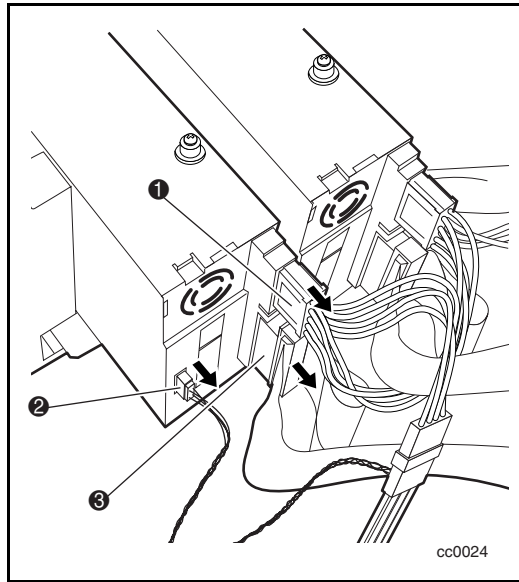

Figure 7. Connecting the new drive
3. Connect the power cable ❶, serial cable ❷, and SCSI cable ❸ to the new drive (see Figure 7).